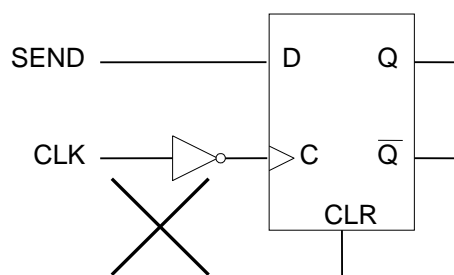

Figure 8: Clock signals must go directly into sequential device clock inputs.
4. Do not gate the clock input (Fig. 8).